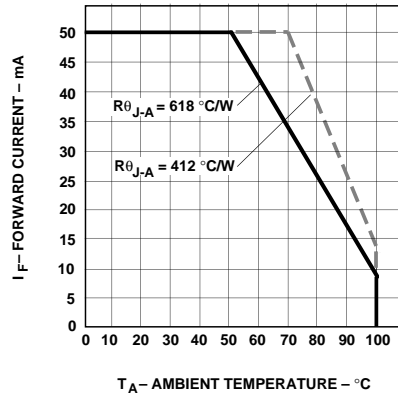

Figure 4. Maximum Forward Current vs. Ambient Temperature. Derating Based on T_J Max = 110°C.
- Derate linearly as shown in Figure 4.